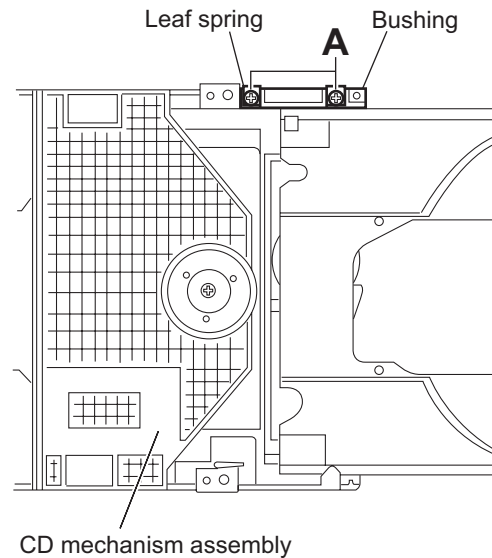

Fig.2
- (2) From the top side of the CD mechanism assembly, remove the two screws **A** attaching the leaf spring to the bushing and remove the leaf spring. (See Fig.2)